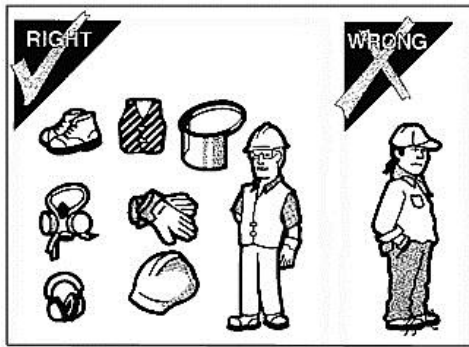

Figure. 1-4
1.3.1.6 You should wear your personal protective outfit (as shown in Figure. 1-4) during working with the machine: